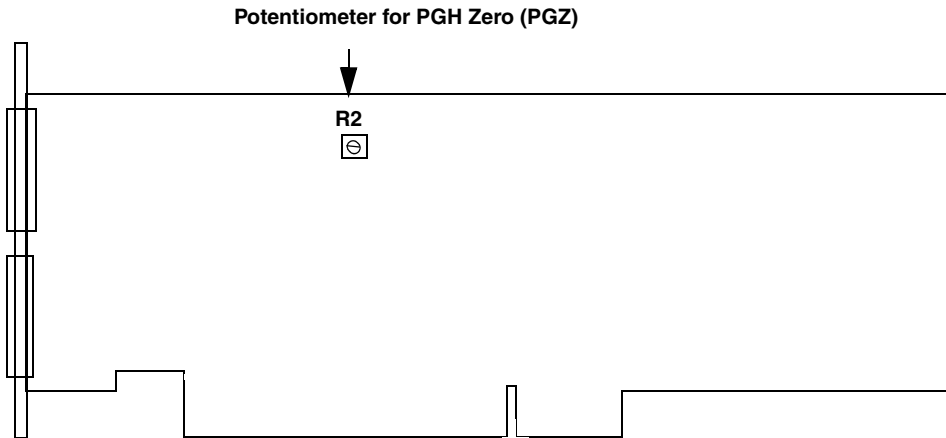

Figure 76: Location of Potentiometer R2 on the DT3010, DT3010-268, DT3010/32, and DT3010/32-268 Boards
2. Physically adjust potentiometer R2 (labelled PGZ) on the DT3010/32 or DT3010/32-268 board until the display reads 0.0000 V (within 0.0049 V for the DT3010, DT3010/32, and DT3010/32-268). Figure 76 shows the location of this potentiometer.